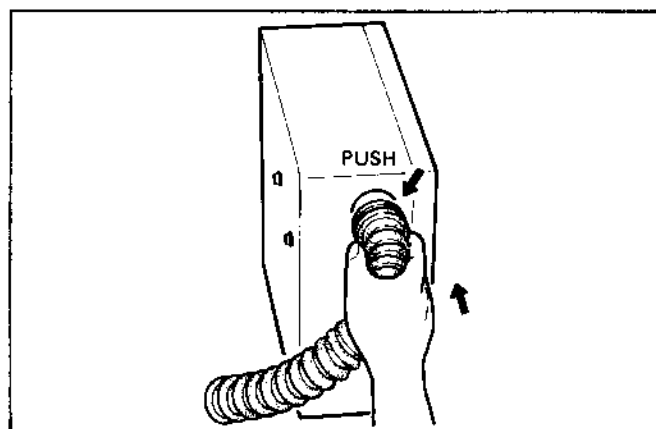

Fig. 10-43
- (2) Connect the wires drawn out from the stator to the wires from the control box. Connect the oil sensor wires at the same time.
- (3) Press the upper end of the bushing into the bottom window of the control box. (See Fig. 10-43.)